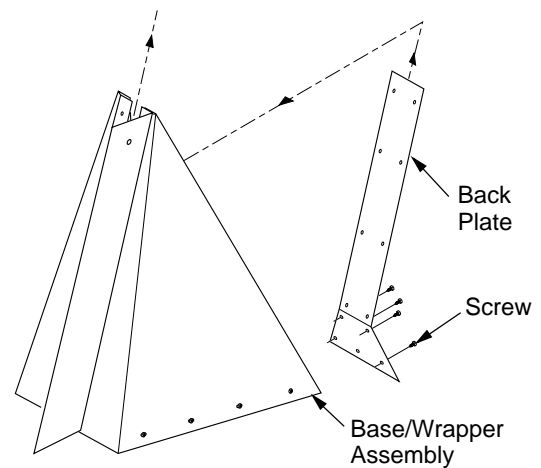

Figure 4 - Attaching Back Plate
4. Align holes on center wrapper with holes on left and right wrappers. Using screws provided, attach center wrapper to left and right wrappers and base from inside the assembly (see Figure 4).